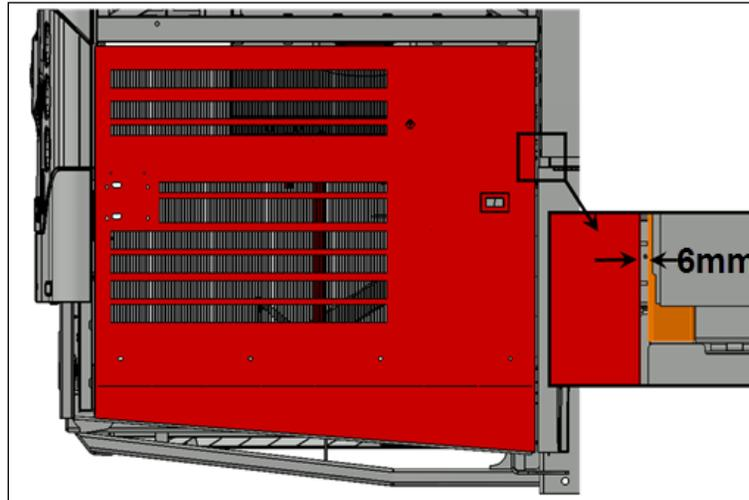

FIGURE 6
5. Check the gap between the door and the adjacent panel at the level of the upper attachment point of the arm on the door. The gap should be $\frac{1}{4}$ " (6 mm) (FIGURE 6).